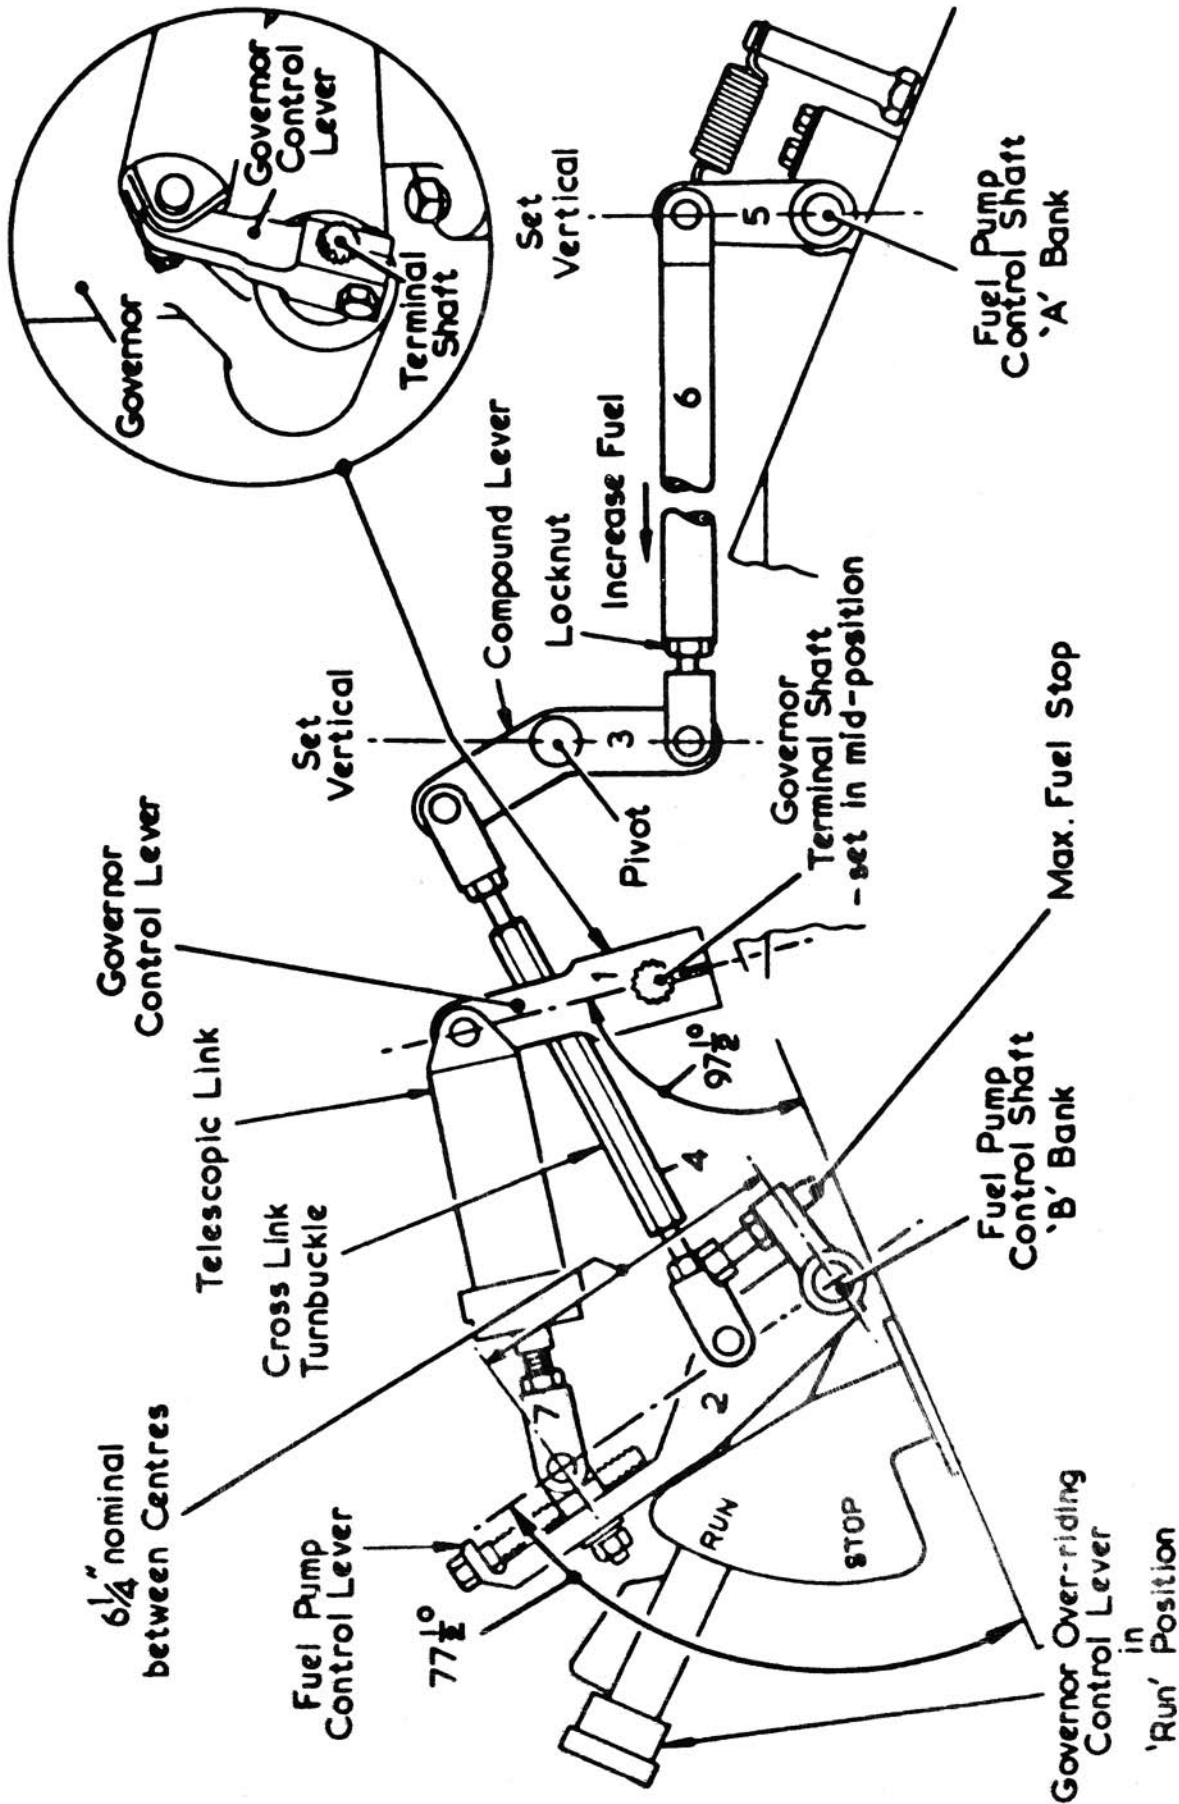

FIG 18 FUEL PUMP CONTROL MECHANISM
INTRODUCTION Refer to Fig.18.
- (1) Observe all Safety Precautions.
- (2) Set linkage to NO FUEL (engine shut down) position. Overriding lever in RUN position.
- (3) With the overriding lever at RUN ensure that the gap between the pump body and the stop is the same as recorded off No. B8 pump which should not have been less than 28 mm. Adjust individual pumps if necessary.
- (4) Ensure that when the overriding level is placed to stop position the fuel pump rack reading is 30 mm.
- (5) Set the governor overriding control at RUN by use of the piston rod jack on the governor power piston. See Fig. 18.
- (6) Turn the control shafts until the governor rack reads 8.2 insert balance setting gauge 11.5 mm without force or slackness between the fuel pump rack collar and the body of the pump nearest the fly wheel end of B bank. Hold the control shafts at this position and using an identical Balance Point gauge 11.5 mm check the rack measurement of the fuel pump at the fly wheel end of A bank.
- (7) The rack setting of both pumps should be substantially equal, but if there is a significant difference it will indicate that the fork end of rod (6) requires adjustment.
- (8) The rack settings of all pumps must be checked with the Balance Point gauge, adjustment of individual pumps at the Balance Point may be necessary.
- (9) Check that any adjustments carried out at the Balance Point have not resulted in any rack measurements being less than the No Fuel gauge setting which may cause the engine to overspeed, or more than the 'Gov. minimum' (shut down) setting, which could cause damage to the fuel pumps.